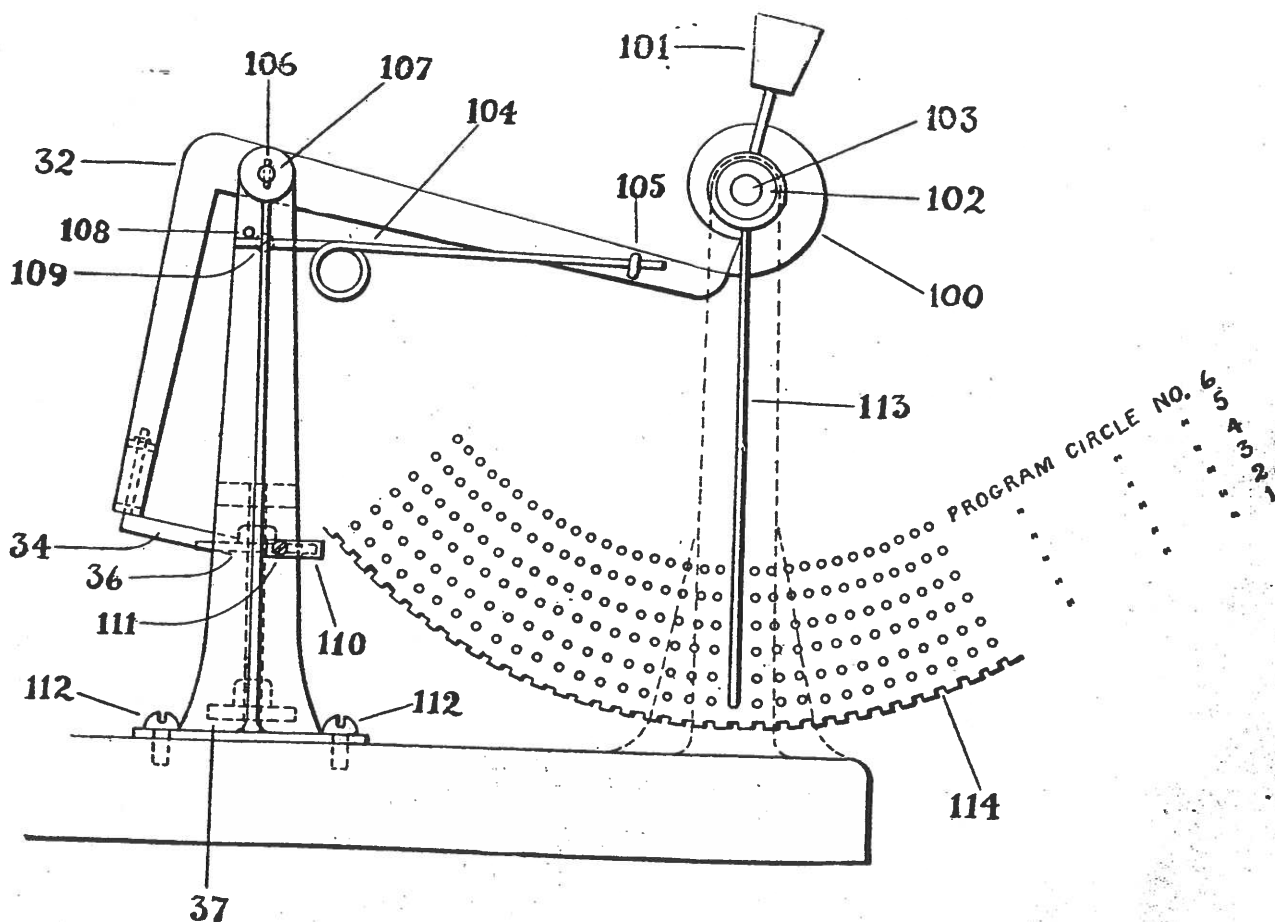
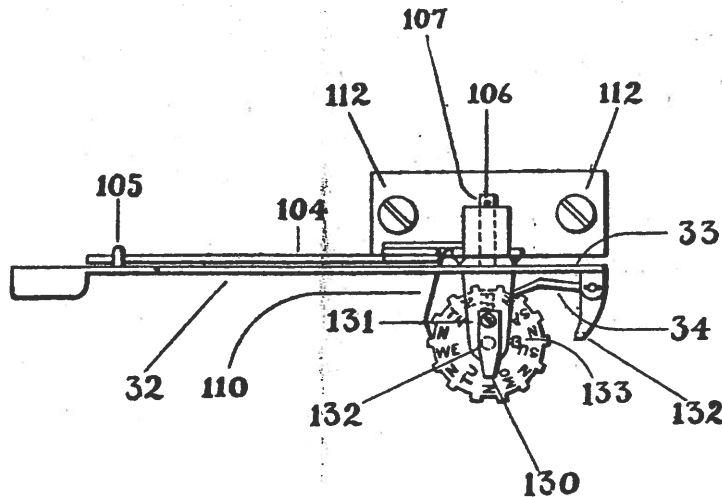

Fig. 2
Fig. 3
2. The outer or largest circle is No. 1, the next one No. 2 and so on. See Fig. 2.
1. Place your finger against front edge of indexed ratchet wheel and turn it from left to right until the pointer 130 Fig. 3, stands at the index of the day or night on which you are setting it. If you set it between 6 a. m. and 6 p. m. Monday, set to "Mo"; if after 6 p. m. Monday set to the "N" following "Mo" and so on.
2. When setting the automatic cut-out be sure that the spring dog 110, Figs. 2 and 3, is just back of a tooth as shown in Fig. 3. This is important.
2. When setting the automatic calendar-switch be sure that the spring dog 110, Figs. 2 and 3 is just back of a tooth as shown in Fig. 3. **This is important.**